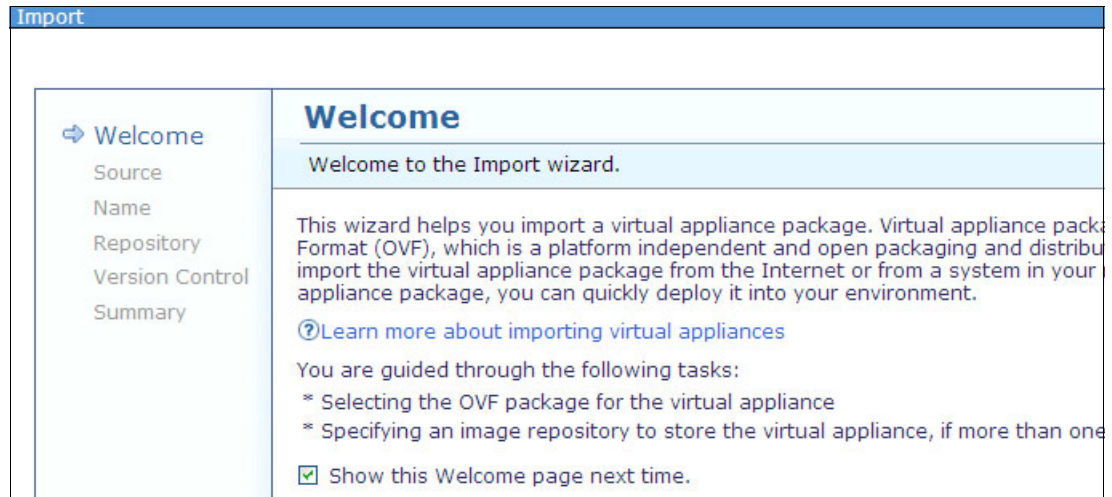

Figure 9-114 Import appliances Welcome window
3. You are redirected to the import appliances Welcome window as shown in Figure 9-114. Click **Next** to start the import process.